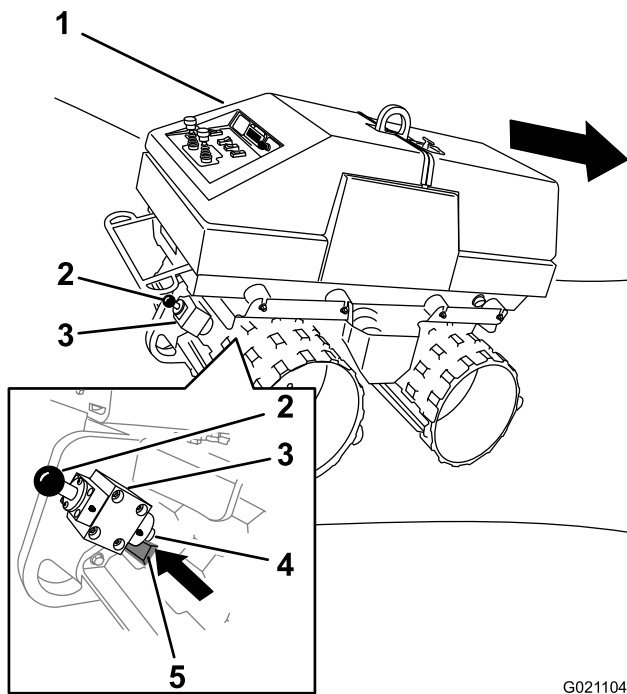
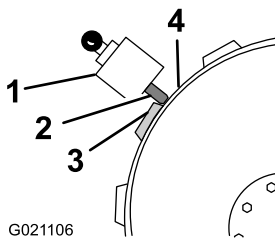
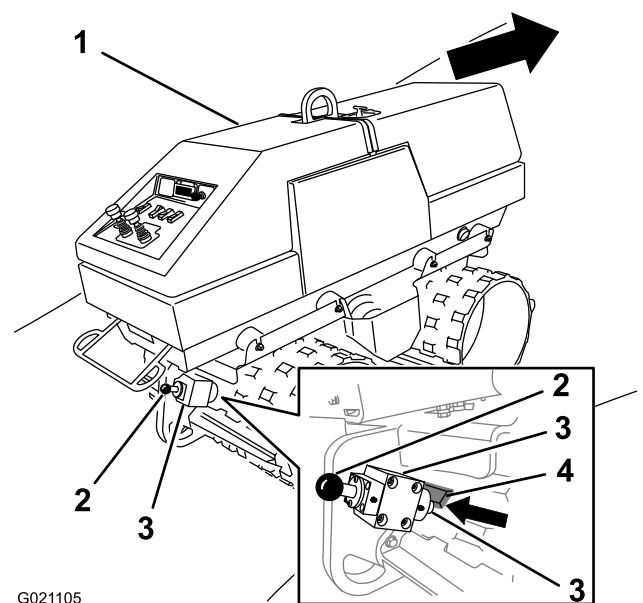
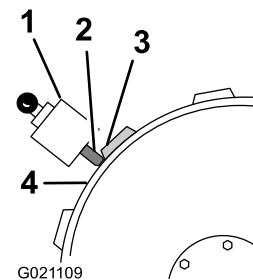

Figure 30
Figure 31
Figure 32
Figure 33
6. Gently release the brake knob of the parking brake, allowing it to retract into the parking brake housing, until the plunger is resting against the side of the drum pad and the surface of the drum (Figure 31, Figure 30, Figure 33, and Figure 32).
- For a machine that is parked **downhill**—align the side of the drum pad that is **rotating upward** against the side of the plunger of the parking brake (Figure 31 and Figure 30).
- For a machine that is parked **uphill**—align the side of the drum pad that is **rotating downward** against the side of the plunger of the parking brake (Figure 33 and Figure 32).
- Gently release the parking brake handle, allowing it to retract until the parking brake is resting in the retract detent (Figure 30 and Figure 32).